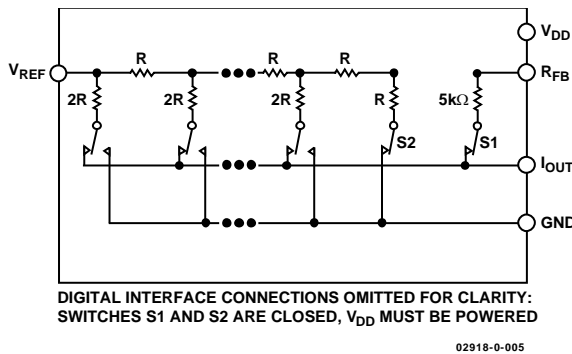

Figure 17. Equivalent R-2R DAC Circuit
The DAC architecture uses a current-steering R-2R ladder design. Figure 17 shows the typical equivalent DAC. The DAC contains a matching feedback resistor for use with an external I-to-V converter amplifier. The R_{FB} pin is connected to the output of the external amplifier. The I_{OUT} terminal is connected to the inverting input of the external amplifier. These DACs are designed to operate with either negative or positive reference voltages. The V_{DD} power pin is used only by the logic to drive the DAC switches on and off. Note that a matching switch is used in series with the internal 5 kΩ feedback resistor. If users attempt to measure the R_{FB} value, power must be applied to V_{DD} to achieve continuity. The V_{REF} input voltage and the digital data (D) loaded into the corresponding DAC register, according to Equation 1 and Equation 2, determine the DAC output voltage.